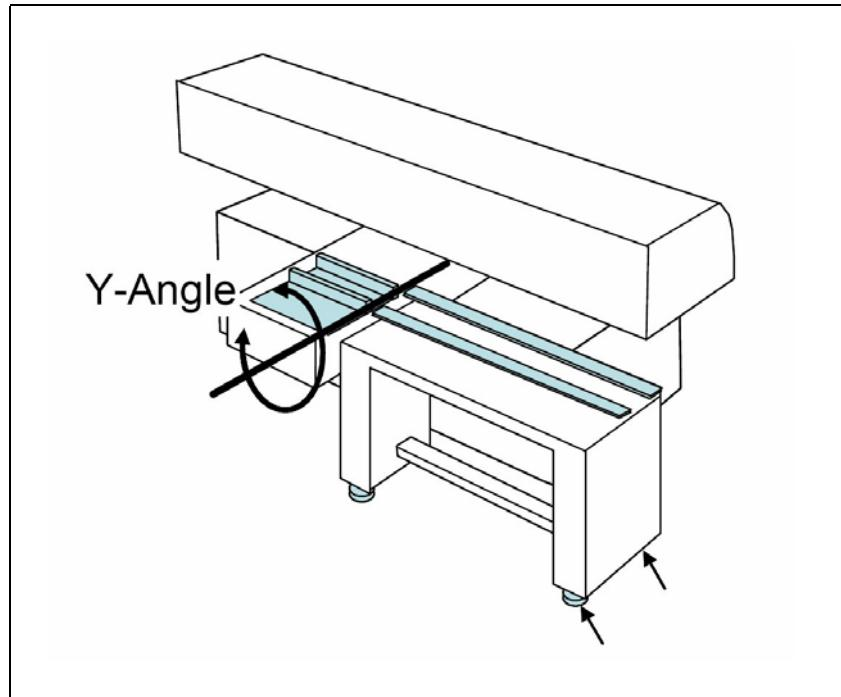

Figure 2-35. Adjust Y-Angle between upstream conveyor and T conveyor.
3. Adjust the upstream conveyor's two feet furthest away from the T conveyor so that there is maximum 1mm Y-Angle between the upstream conveyor belt and the T conveyor belt. Use a metal ruler positioned on edge on top of the conveyor belts. See Figure 2-35 for details.